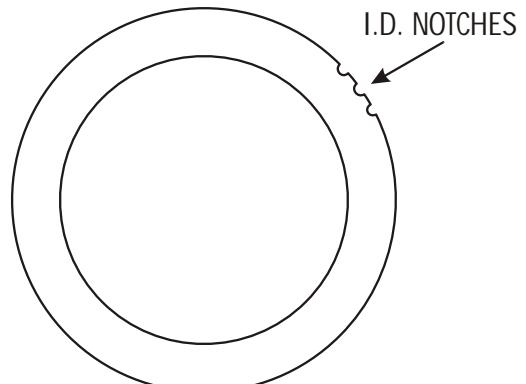

Figure 154
41. Rear end clearance should be .008" to .012". Change the selective No. 4 thrust bearing using the chart in Figure 154, as necessary to arrive at the proper end play.